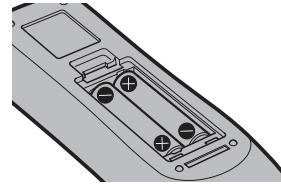

Fig. 2
- 2) **Insert batteries and close the cover. (Insert the "⊖" side first.) (Fig. 2)**